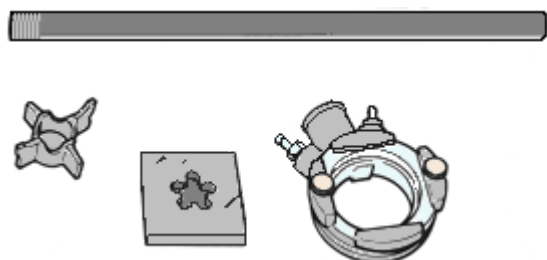

Figure F2 – taps and dies
1. Taps and Dies are very brittle and rough handling can easily chip the teeth (Figure F2).